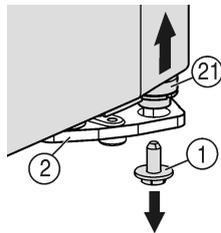
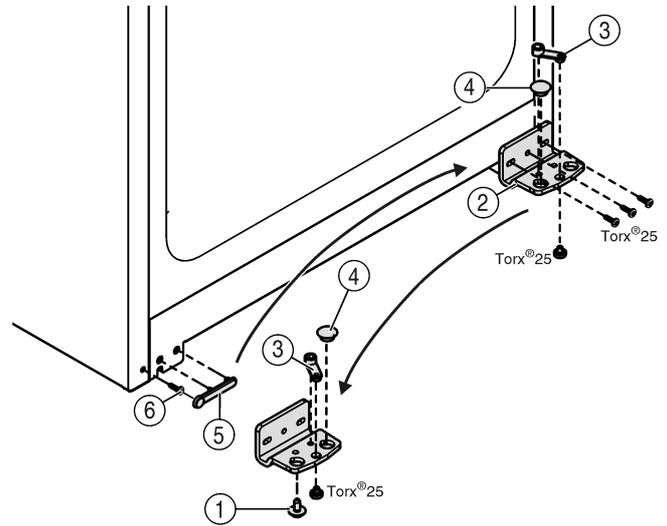

Fig. 5
Fig. 6
- ▶ Unscrew the securing screw on the bottom right *Fig. 5 (1)* turn hinge.
- ▷ The bearing pin *Fig. 5 (21)* should come out of the turn hinge *Fig. 6 (2)*.
- ▶ If the bearing bolt *Fig. 5 (21)* doesn't undo press it out from underneath.
- ▶ Unscrew the turn hinge *Fig. 6 (2)*.
- ▶ Unscrew the bearing element, *Fig. 6 (3)* transfer it to the opposite location hole of the turn hinge and screw it firmly into place.
- ▶ Take the stopper *Fig. 6 (4)* out of the turn hinge and transfer it to the receiving hole on the opposite side of the turn hinge.
- ▶ Carefully lift off the cover *Fig. 6 (5)* on the handle side.
- ▶ Undo the screw *Fig. 6 (6)* and transfer it to the opposite side.
- ▶ Put the cover *Fig. 6 (5)* back on.
- ▶ Screw the turn hinge *Fig. 6 (2)* firmly into place on the new hinge side (**with 4 Nm**), possibly using a power screwdriver.
- ▶ Insert the securing screw Fig. 5 (1) at the bottom into the bearing pin and tighten it (with 4 Nm).